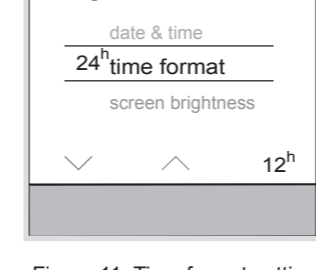

Figure 11: Time format setting
The time format changes from the 24h to 12h display. In the function line (8) the 24h appears in order to switch back again to 24h (figure 11).